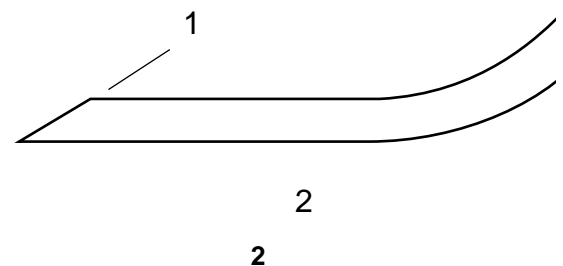

Figure 20
5. Inspect the cutting edges of all blades. Sharpen the cutting edges if they are dull or nicked. Sharpen only the top of the cutting edge and maintain the original cutting angle for best performance (Fig. 20). The blade will remain balanced if the same amount of metal is removed from both cutting edges.